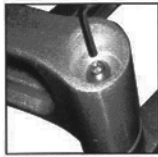

Fig. 6 - Use the Alley Key to tighten the arms and prevent unwanted movement.
- If any of the arms become too loose to hold their position, they can be tightened using the Alley Key provided in your hardware kit (see Fig. 6).